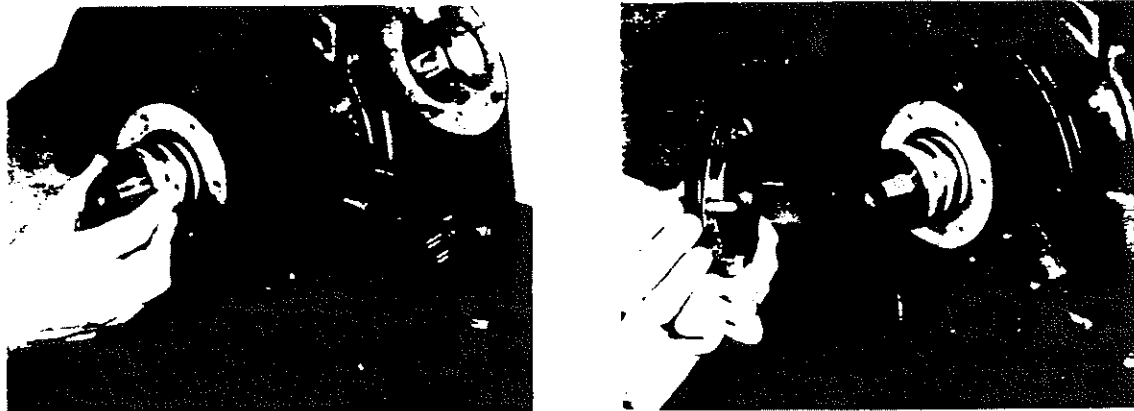

Figure 3-17. Installing Shaft Seal
b. Remove new carbon washer from new seal assembly. Lubricate shaft and neoprene seal bellows where it contacts the shaft. Slide seal assembly onto shaft until neoprene bellows starts to grip the shaft. (See figure 3-17.)
c. Install the old carbon washer in the new seal seat. Install two capscrews in opposite sides of the old cover plate. (See figure 3-17.) Draw up capscrews evenly to properly position new seal assembly against shoulder on shaft. Remove capscrews and old carbon washer and cover plate.